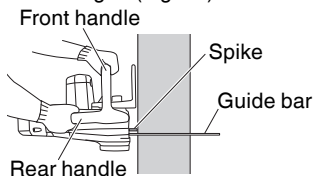

Fig. 23
- (4) When cutting wood horizontally, turn the unit body to the right so that the guide bar is below and hold the upper side of the front handle with your left hand. Hold the guide bar horizontally and place the spike that is on the front of the unit body on the lumbar. Using the spike as a fulcrum, cut into the wood by turning the rear handle to the right. (Fig. 23)